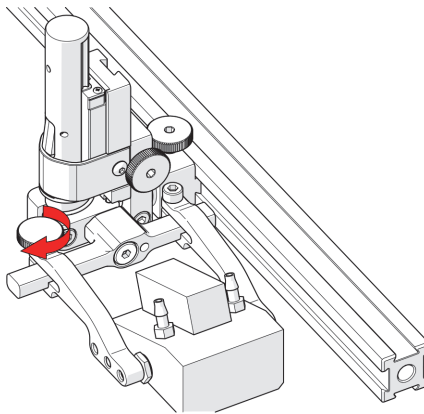

Figure 2-55 Tighten arm knob
3. Tighten the probe holder arm adjustment knob (see Figure 2-55 on page 94).